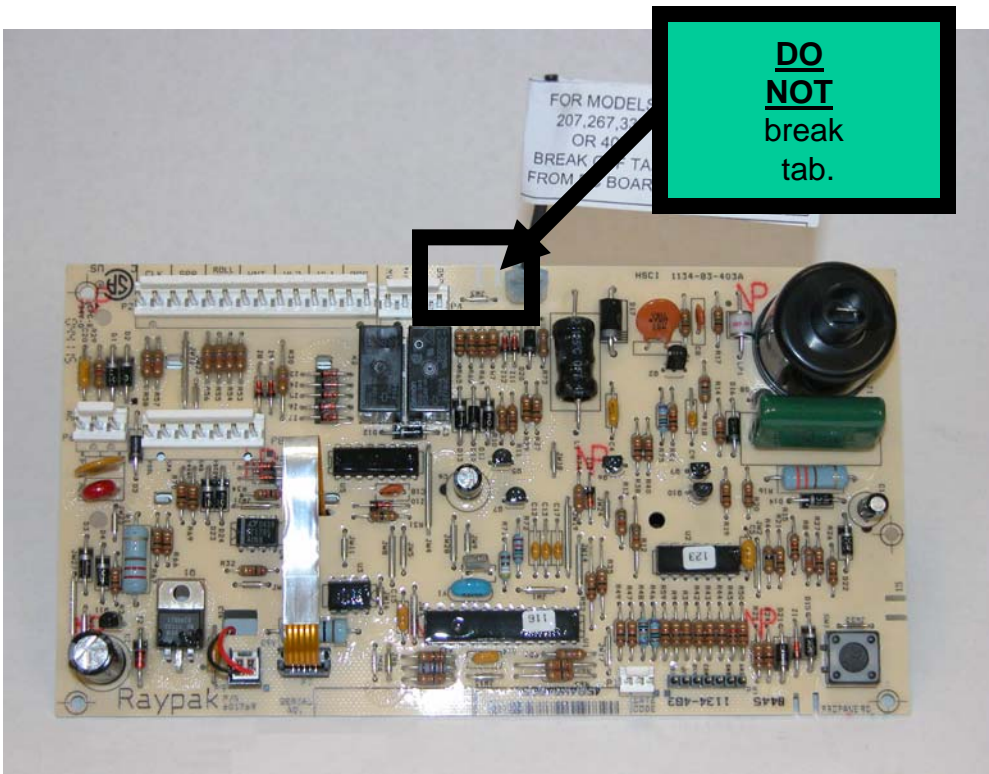
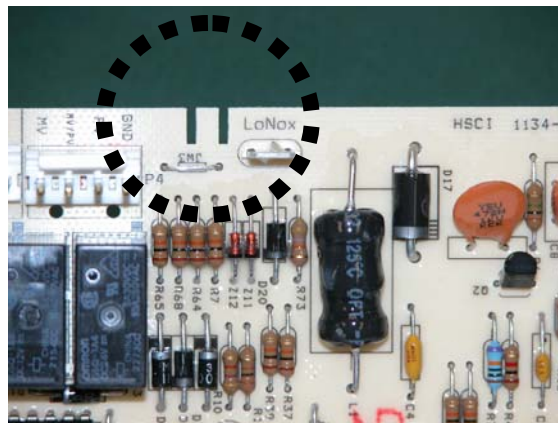

Fig. 15
Fig. 16
1. **DO NOT** break tab See **Fig. 15** and **Fig.16**.